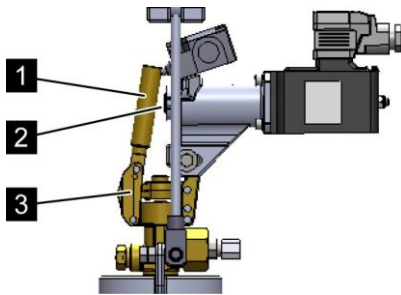

Fig. 72: Valve lever
Unscrew the valve lever (Fig. 72/1) from the valve (Fig. 72/3) of the pilot cylinder.
13. ➔ Ensure that the EM release device is not tensioned, i.e. that the release pin (Fig. 72/2) is projecting.